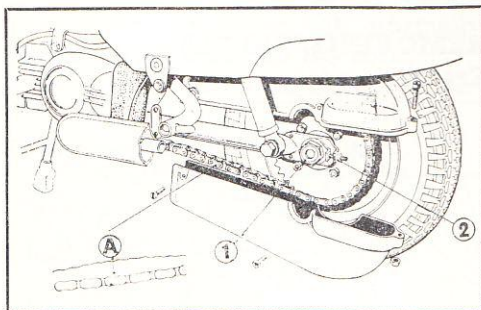

Fig. 43
Slacken the axle nuts, (1, Fig. 43) offside first, and rotate the chain adjuster nuts (2) as necessary. With no rider and the wheels resting